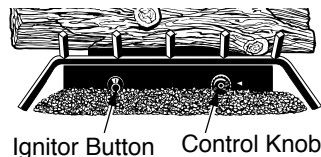

Figure 28 - Control Knob and Ignitor Button Location
4. Wait five (5) minutes to clear out any gas. Then smell for gas, including near the floor. If you smell gas, STOP! Follow "B" in the safety information, page 20, column 2. If you don't smell gas, go to the next step.
5. Turn control knob counterclockwise  to the PILOT position. Press in control knob for five (5) seconds (see Figure 28).
**Note:** If pilot goes out, repeat steps 3 through 7. This heater has a safety interlock system. Wait one (1) minute for system to reset before lighting pilot again.